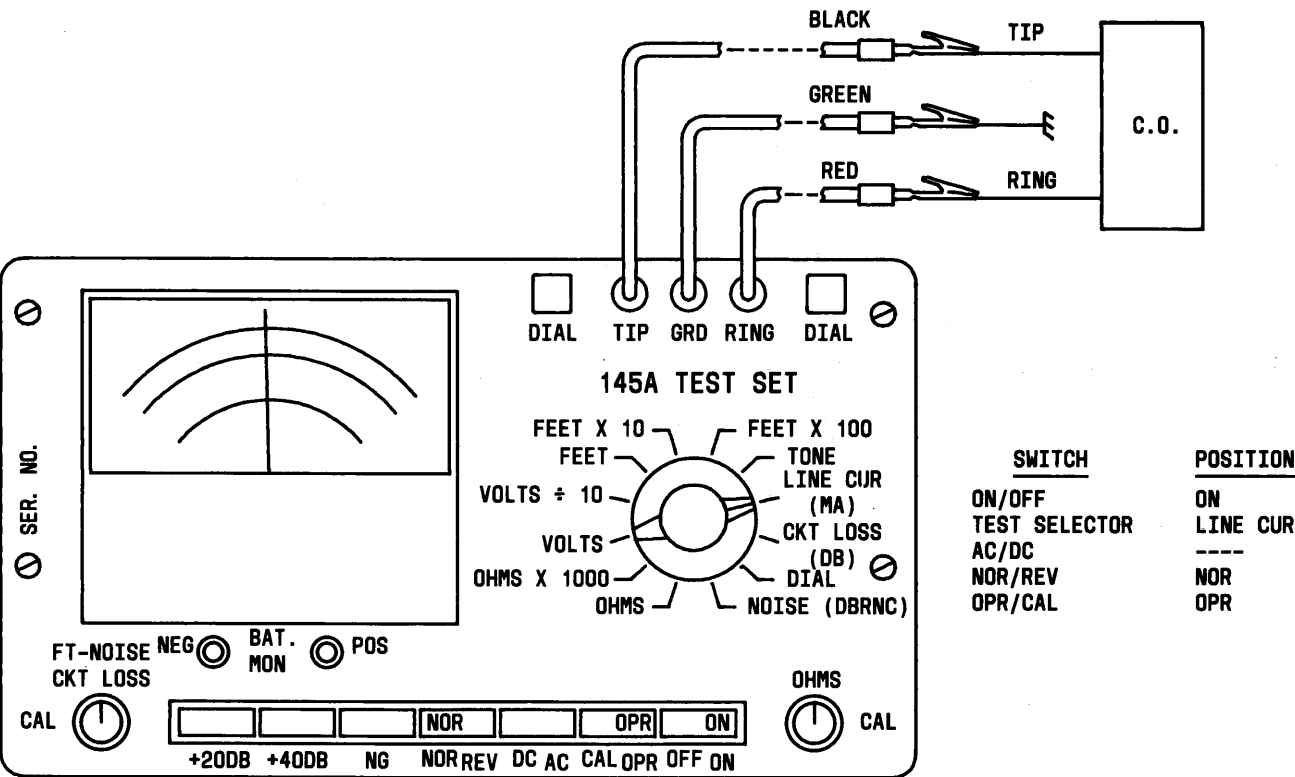

Fig. 8—Line Current Measurement
3.12 Line Current Measurement (Fig. 8):